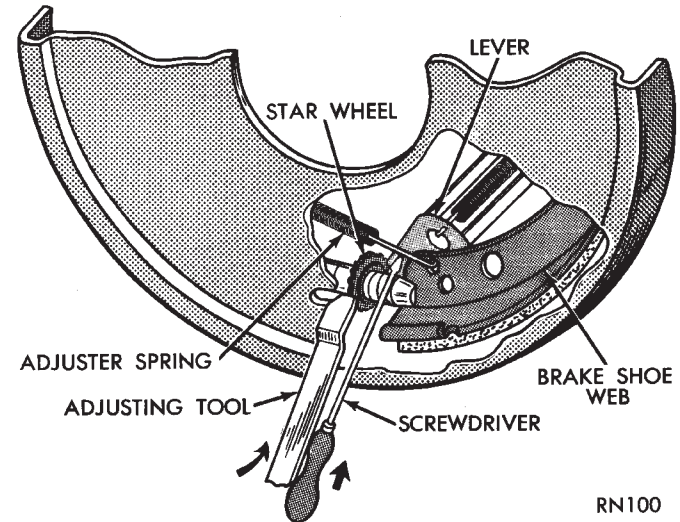

Fig. 62 Brake Adjustment
- (1) Be sure parking brake lever is fully released.
- (2) Raise vehicle so rear wheels can be rotated freely.
- (3) Remove plug from each access hole in brake support plates.
(4) Loosen parking brake cable adjustment nut until there is slack in front cable.
(5) Insert adjusting tool through support plate access hole and engage tool in teeth of adjusting screw star wheel (Fig. 62).